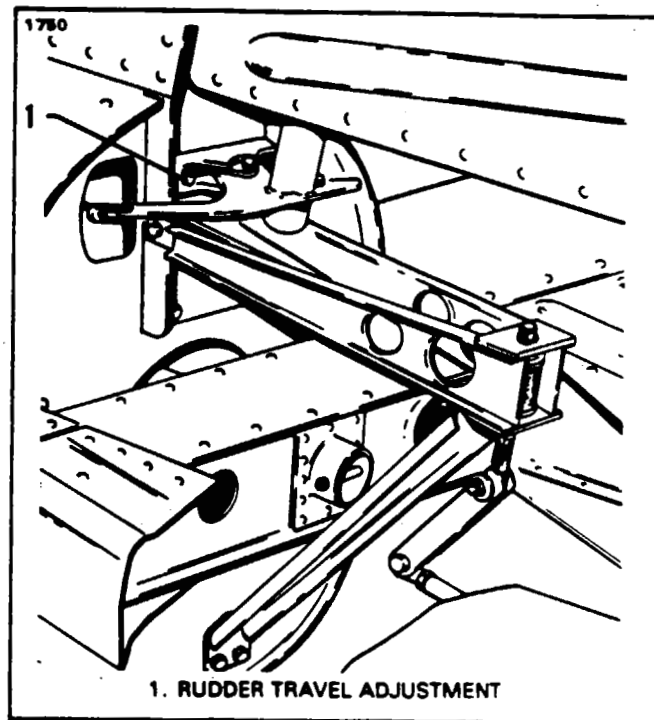

Figure 27-10. Rudder Travel Adjustments
- D. Should the rudder travel be incorrect showing a gap between the tool and any part of the control surfaces, the tail cone fairing should be removed and the stops reset to obtain correct rudder travel. (Refer to Figure 27-10.)